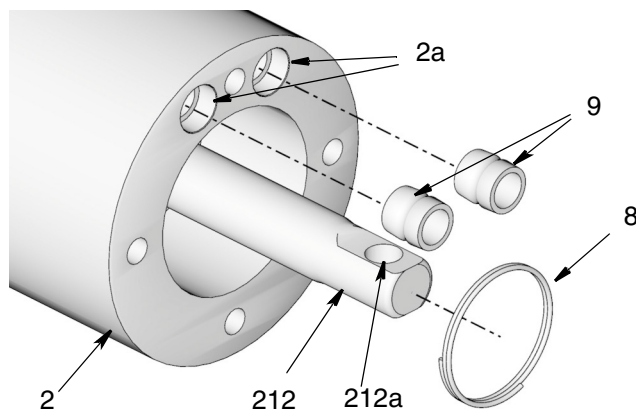
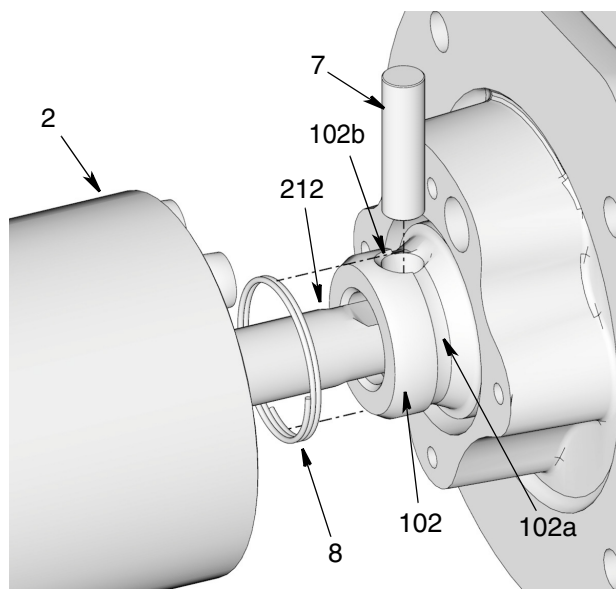
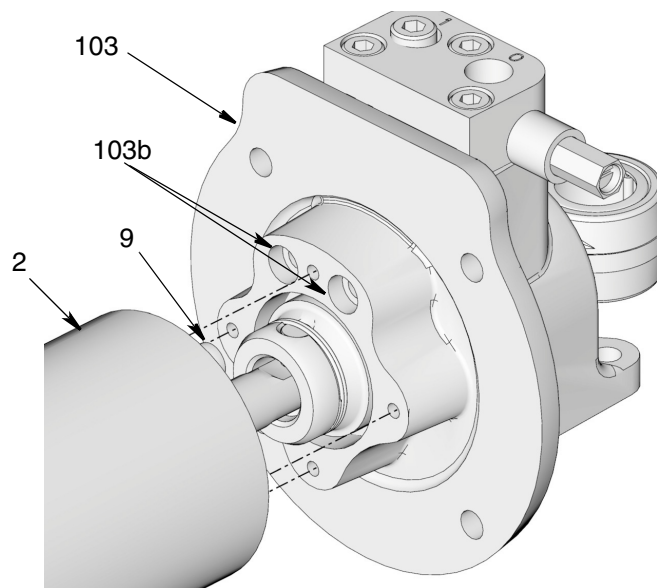

FIG. 43
FIG. 44
FIG. 45
19. Push displacement rod assembly up until displacement rod (212) is extending out the top of the pump adapter (2) as shown in FIG. 43.
20. Apply a thin layer of grease to gasket seals (9). Install seals in pump adapter (2) as shown in FIG. 43
21. Place spring (8) over the end of displacement rod (212) as shown in FIG. 44.
22. Remove pump assembly from vise. Align hole (212a) in displacement rod (212) (FIG. 43) with connecting rod hole (102b) in the gear box bracket (103) (FIG. 44). Insert pin (7) through hole.
23. Slide spring (8) over pin (7) to secure pin in place. Seat spring in groove (102a) in connecting rod (102) to prevent it from moving during pump operation.
24. Align the two gasket seals (9) in pump adapter (2) with two holes (103b) in gear box pump bracket (103). Push the pump lower and pump assembly together (FIG. 45).